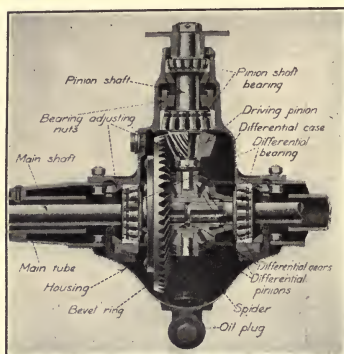
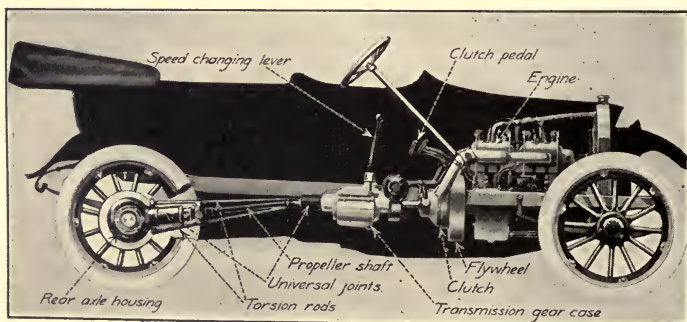
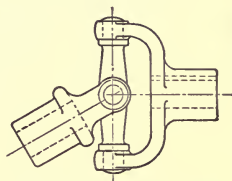
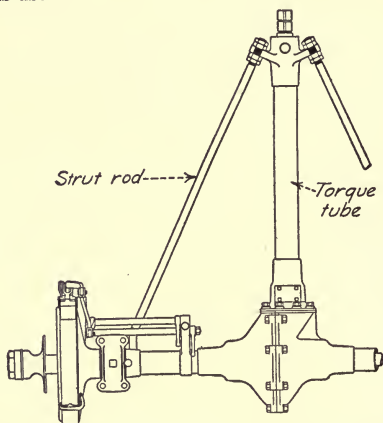

FIG. 14.—Differential gear.
FIG. 15.—Arrangement of power plant and transmission system.
FIG. 16.—Universal joint.
FIG. 17.—Rear axle with torque tube and strut rods.
12. The Power Plant and Transmission.—Figure 15 shows a typical arrangement of the power plant and the power transmission system. The engine is generally placed in the front end of the car, both for accessibility and to balance the weight of the passengers in the rear part
The power plant is mounted on the frame of the car, while the rear wheels which are to finally receive and use the power are flexibly connected to the frame by springs. We must, therefore, have a flexible arrangement for taking the power from the power plant to the rear axle. This is usually accomplished by means of a propeller shaft and one or two universal joints (see Fig. 15). A universal joint is merely a double-hinged shaft connection (see Fig. 16) permitting the lower end of the propeller shaft to swing at will with the rear axle and yet receive power from the engine.
In the car of Fig. 15 the engine and transmission are carried in the frame of the car and the first universal lies just back of the transmission. In the car of Fig. 3 the transmission with its change gears is placed just in front of the rear axle and is fastened solidly to the rear axle housing. This places both universal joints and the propeller shaft between the engine and the transmission.
shaft and the bevel pinion in driving the rear axle (see Fig. 14) tend to turn the axle housing over backward with the same force that is exerted on the bevel ring. This twisting action or "torque" must be taken care of in some way. This can be done by torsion rods as in Fig. 15, or by a single bar called a torque arm or by a torsion tube around the propeller shaft, or it can be left entirely to the springs to take care of this action. If the torque is taken up by a housing around the propeller shaft as in Fig. 17, this tube is called the "third member" of the rear axle system and is securely bolted to the rear axle housing. This system does away with one universal joint, as only one at the front extremity of the propeller shaft is used.
14. Strut Rods.—In order to preserve the alignment of the wheels or to keep one wheel from getting ahead of the other, strut rods are fastened to the brake flanges or spring seats, and extend to the front end of the third member as in Fig. 17 or to some part of the frame.